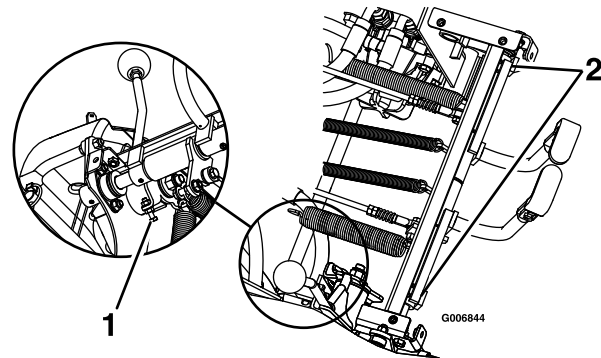

Figure 19
3. If either steering control lever surface does not contact the stop bar at the full forward speed position, adjust the stop bolt until contact occurs (see Figure 19). Once contact occurs, turn the stop bolt one more full turn to prevent bottoming of the hydraulic pump internal stops.